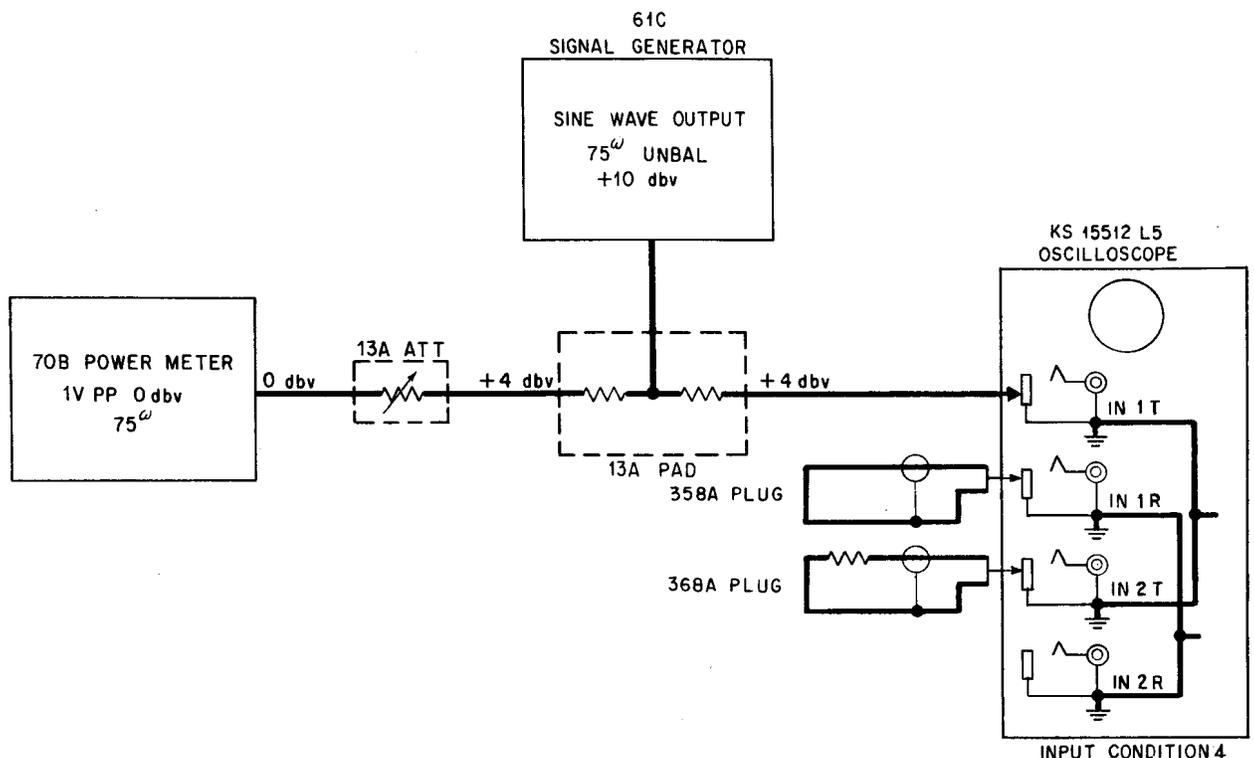

Fig. 8 — Vertical Amplifier Frequency Response
(2) Set the SWEEP FREQ control to LO position and adjust the H GAIN control for desired width of the horizontal sweep. Adjust the V GAIN control for a vertical deflection of 1-inch (20 divisions on graph paper) on the scope. Without readjusting the V GAIN control, maintain the reference output level of the generator to measure the gain frequency response of the vertical amplifier over the range from 100 kc to 10 mc, which should fall within the limits specified below where values in parentheses indicate differences from 20 divisions expressed in db (see below).
(3) Readjust the signal generator to furnish a 100 kc sine-wave signal sufficient to provide a 0 dbv reading on the 70B Power Meter and a 1-inch (20 divisions on graph paper) deflection on the oscilloscope. Without readjustment of the V GAIN control set up condition 4 (Paragraph 1.07) on the scope. (See Fig. 8.) The vertical deflection should be 1-inch ± 0.025 inch (20 divisions ± 0.5 division on graph paper).
(4) Readjust the V GAIN control for a 1-inch deflection. Still using input condition 4, measure the gain-frequency re-